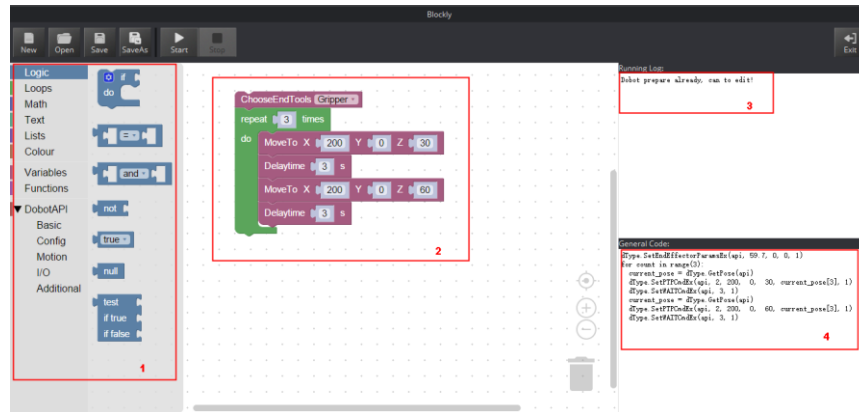

Figure 5.183 Blockly graphic programming
Step 2 Drag the blockly module on the left pane of the **Blockly** page to program, as shown in Figure 5.183.
The demo in Figure 5.183 is described as follows.